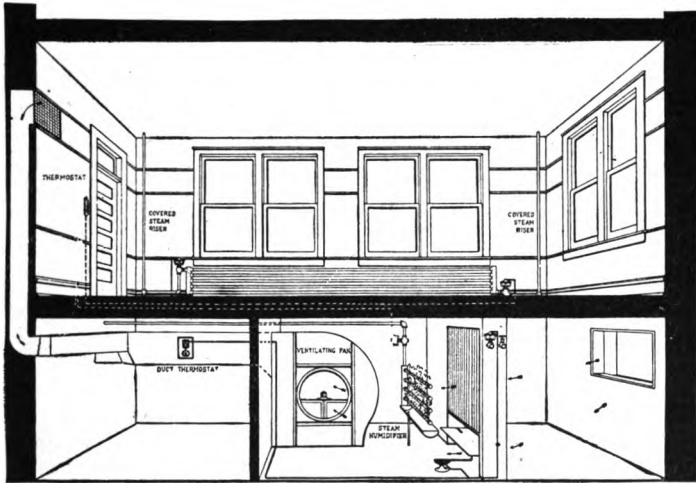

FIG. 25.—VENTILATING SYSTEM THAT SUPPLIES WARM AIR OF CORRECT HUMIDITY
radiators pans of water are placed on the radiators to furnish water vapor to the air. In large buildings, the air, after being heated, should be passed through a spray of water before it is distributed to the rooms (Fig. 25).
**85. Heating of Schoolrooms and Public Buildings.** The supply of fresh air furnished to rooms by natural ventilation is not sufficient for breathing purposes when there are many persons occupying the same room. In such cases an *indirect* system of ventilating and heating combined is employed. The commonest of these is the fan system (Fig. 25), in which fresh air is pumped in from outside by means of a centrifugal fan or blower. This air is forced through radiators in the basement and then through ducts to the different rooms. The impure air breathed out by the persons is forced out through flues leading to the roof. The best places for inlet and outlet are shown by Figure 40. When the inlet is above the outlet on the same side of the room, there is a thorough circulation of the fresh air to all parts of the room.